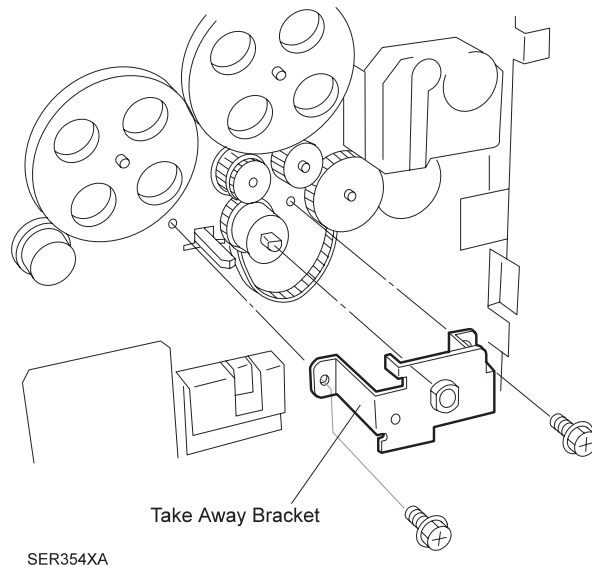

Figure 3-10. HCF Drive Belt
3. Reinstall the Take Away Bracket to the frame, making sure the bearing is still in place on the end of the Feed Clutch, and use two screws to secure the Bracket (Figure 3-10).